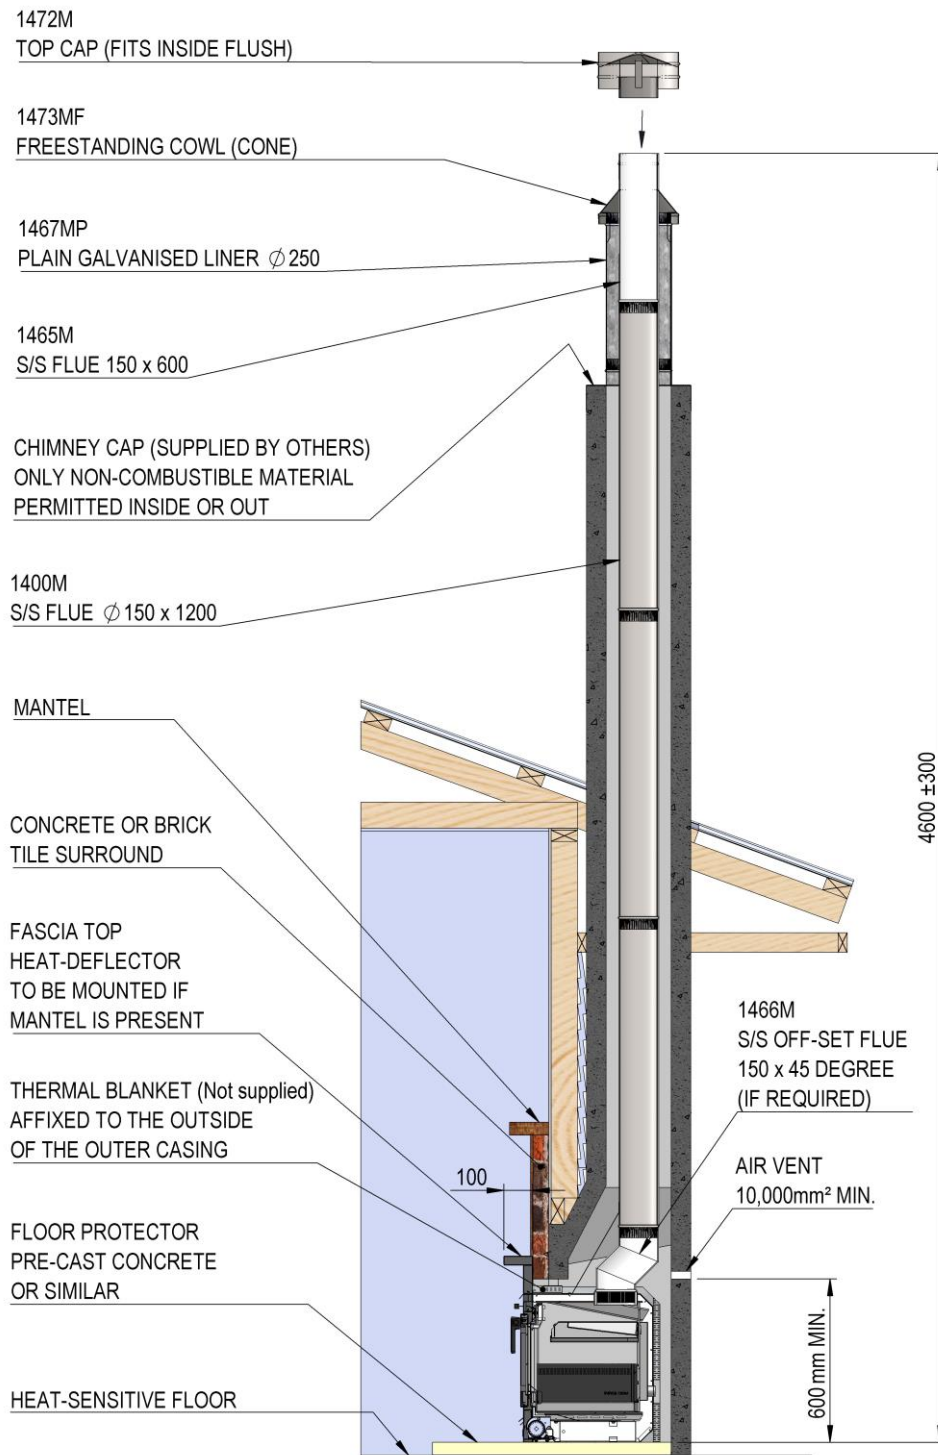

Fig. 3
K. Typical Masonry Flue Installation (Fig. 3)